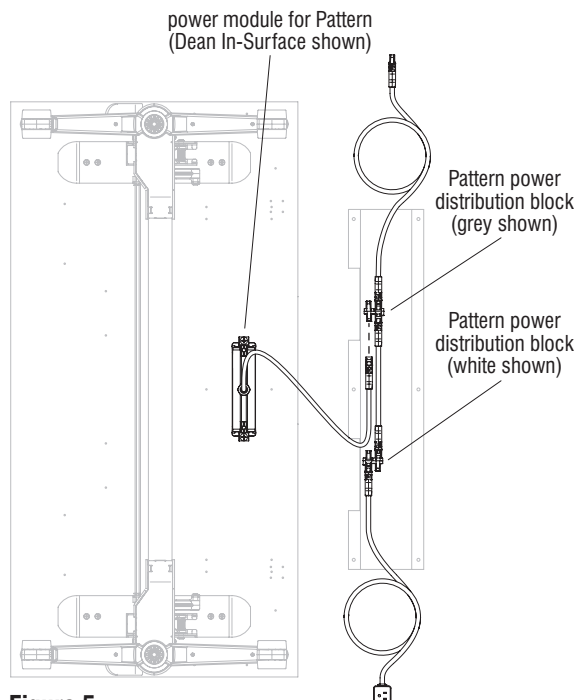

Figure 5
1. If the table being assembled contains at least one power module for Pattern, route the connector end of each module toward an available power distribution block on the Pattern electrical system inside the wire trough. Repeat step 1 to route the remaining power modules from the other tables to an available power distribution block (Figure 5 & Details E & F).